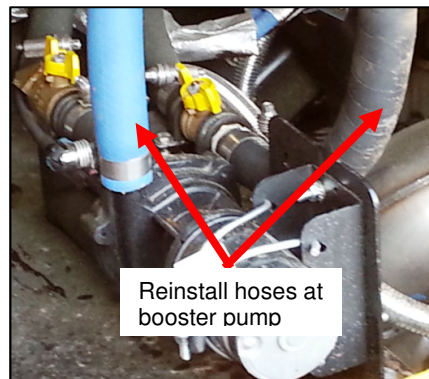

Figure 10, Reconnect Hoses in the Engine Compartment
15) Reinstall the supply and return line. See **Figure 10**.